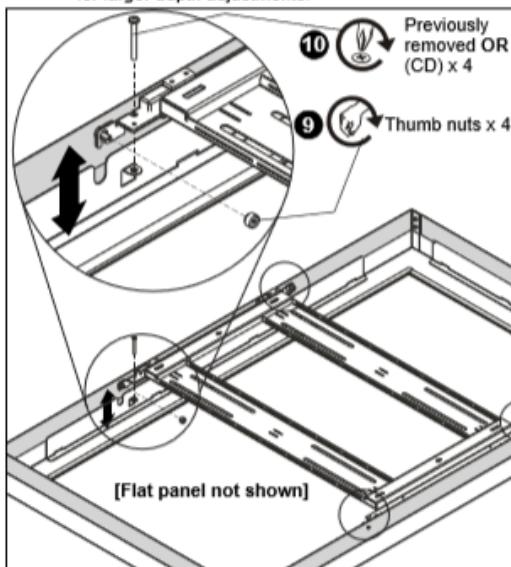

Figure 8
9. Tighten thumb nuts over threaded studs in four locations on the hinged frame. (See Figure 8)
10. Replace and fasten four Phillips screws which were removed in Step 1, OR replace the removed screws with four 10-24 x 2-3/4" Phillips head screws (CD) to allow for a larger depth adjustment of the outer frame. (See Figure 8)
**NOTE:** The outer frame depth may be adjusted between 3" - 5" to make room for a variety of different flat panel thicknesses. (See Figure 8)
- The 4 Phillips screws removed in Step 1 can be replaced with four 10-24 x 2-3/4" Phillips screws (CD) for larger depth adjustments.